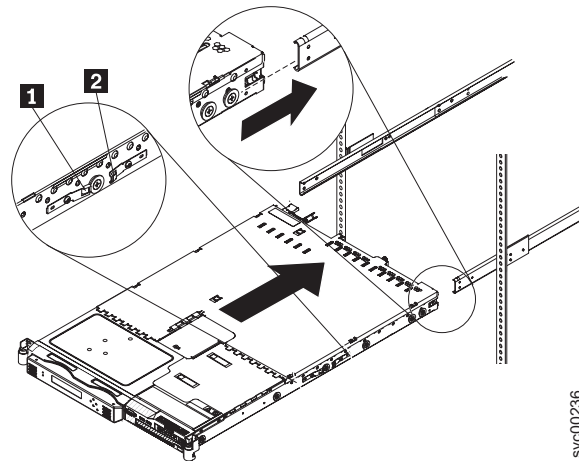

Figure 44. Aligning the SAN Volume Controller 2145-8G4 with the rack slides
3. Align the two rear wheels on the node with the opening in the slides and then push the node into the slides until the rear slide release latches (**2** in Figure 44 on page 65) click into place, locking the node in the slides.